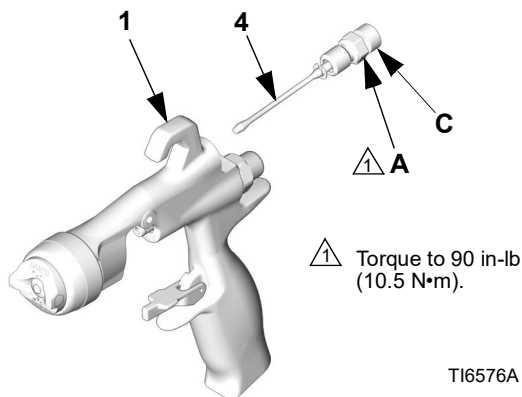

FIG. 34
- Unscrew the fan valve packing nut (A) from the back of the gun body (1). Slide the fan valve assembly (4) out of the gun body. See FIG. 34.
- Before reinstalling, turn the pattern adjustment valve (C) of the replacement fan valve assembly (4) completely counterclockwise to prevent damage to the seat (5c). Install the replacement fan valve assembly into the gun body (1). Screw the packing nut (A) into the gun body and torque to 90 in-lb (10.5 N•m).